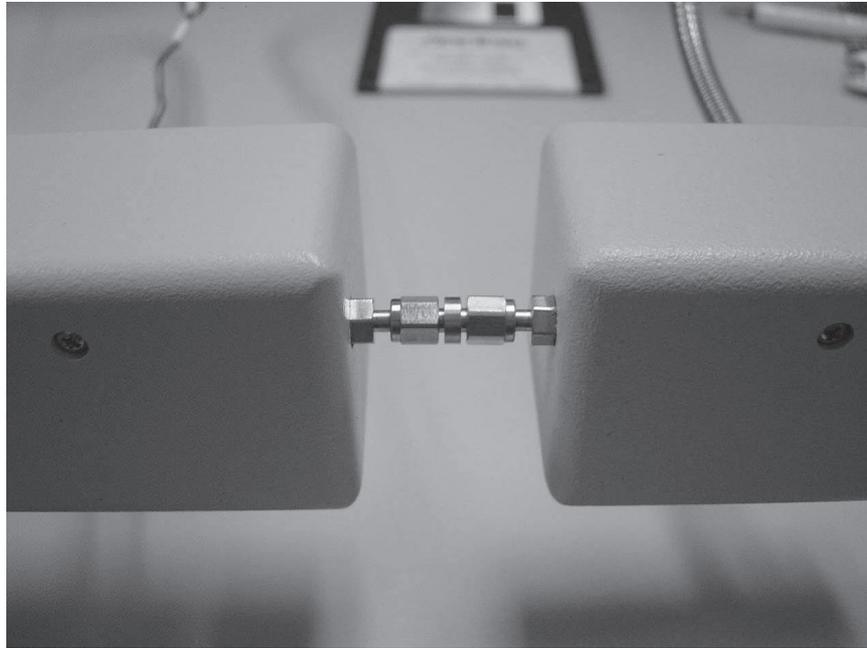

Figure 7-13. Through Line Connections
26. For the through line calibration, you may connect the couplers as shown in Figure 7-13 or use a through line. If a through line is used, it must be in line for all subsequent measurements.